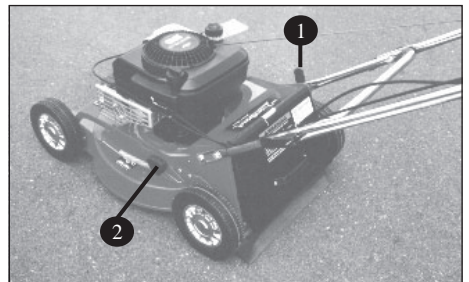

Figure 3 - Conbar Adjustment - 35m, 75m, 50m, 51m, 60m, 61m, & 80m
2.6 Vari-Tilt Conbar System (Figure. 3):
2.7 Vari-Tilt Conbar Adjustment - Mulching (Figure. 3):
2.8 Vari-Tilt Conbar Adjustment - Catching (Figure. 3):